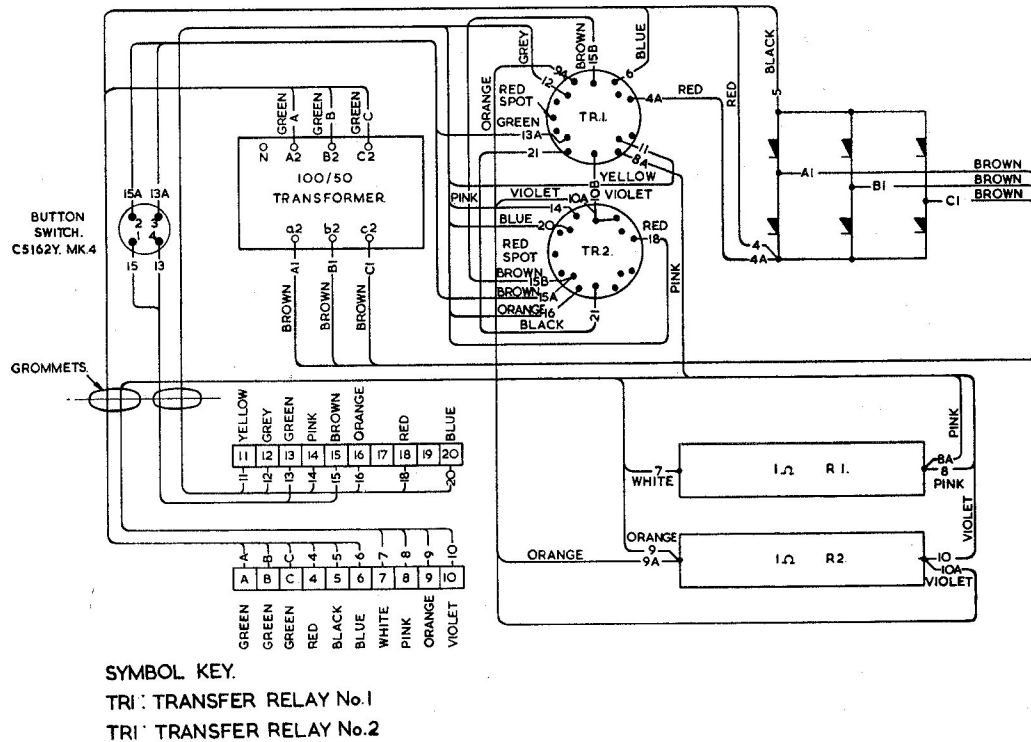

Fig. 3. Schematic wiring diagram
4. Relay TR1 in fig. 3 is energized by a signal from the Type AE7002 control panel. It has four pairs of contacts. Contacts TR1-2 and TR1-3 (normally open), when closed these switch the Type AE7511 magnetic amplifier regulator on to the a.c. generator exciter field terminals, and also on to resistors R1 and R2. Contact TR1-1 (normally open), when closed, energizes the operating coil of relay TR2. Contact TR1-4 (normally closed), when open inserts a resistance in series with the carbon pile operating coil in order to reduce the carbon pile resistance to a minimum, as it remains in circuit during generator control by the magnetic amplifier regulator.
5. Relay TR2 in fig. 3 operates three pairs of contacts, TR2-1 contact (normally open), when closed maintains the operating voltage (under normal generator line voltage conditions) on the TR1 coil. Contact TR2-2 is normally closed, in this position it provides a signal to disconnect the radar from the generator by means of the radar master control. TR2-3, contact normally open, when closed increases the generator exciter bias field current, during operation on the magnetic amplifier regulator.
6. The transformer rectifier unit in fig. 3 consists of 3-phase transformer and full-wave